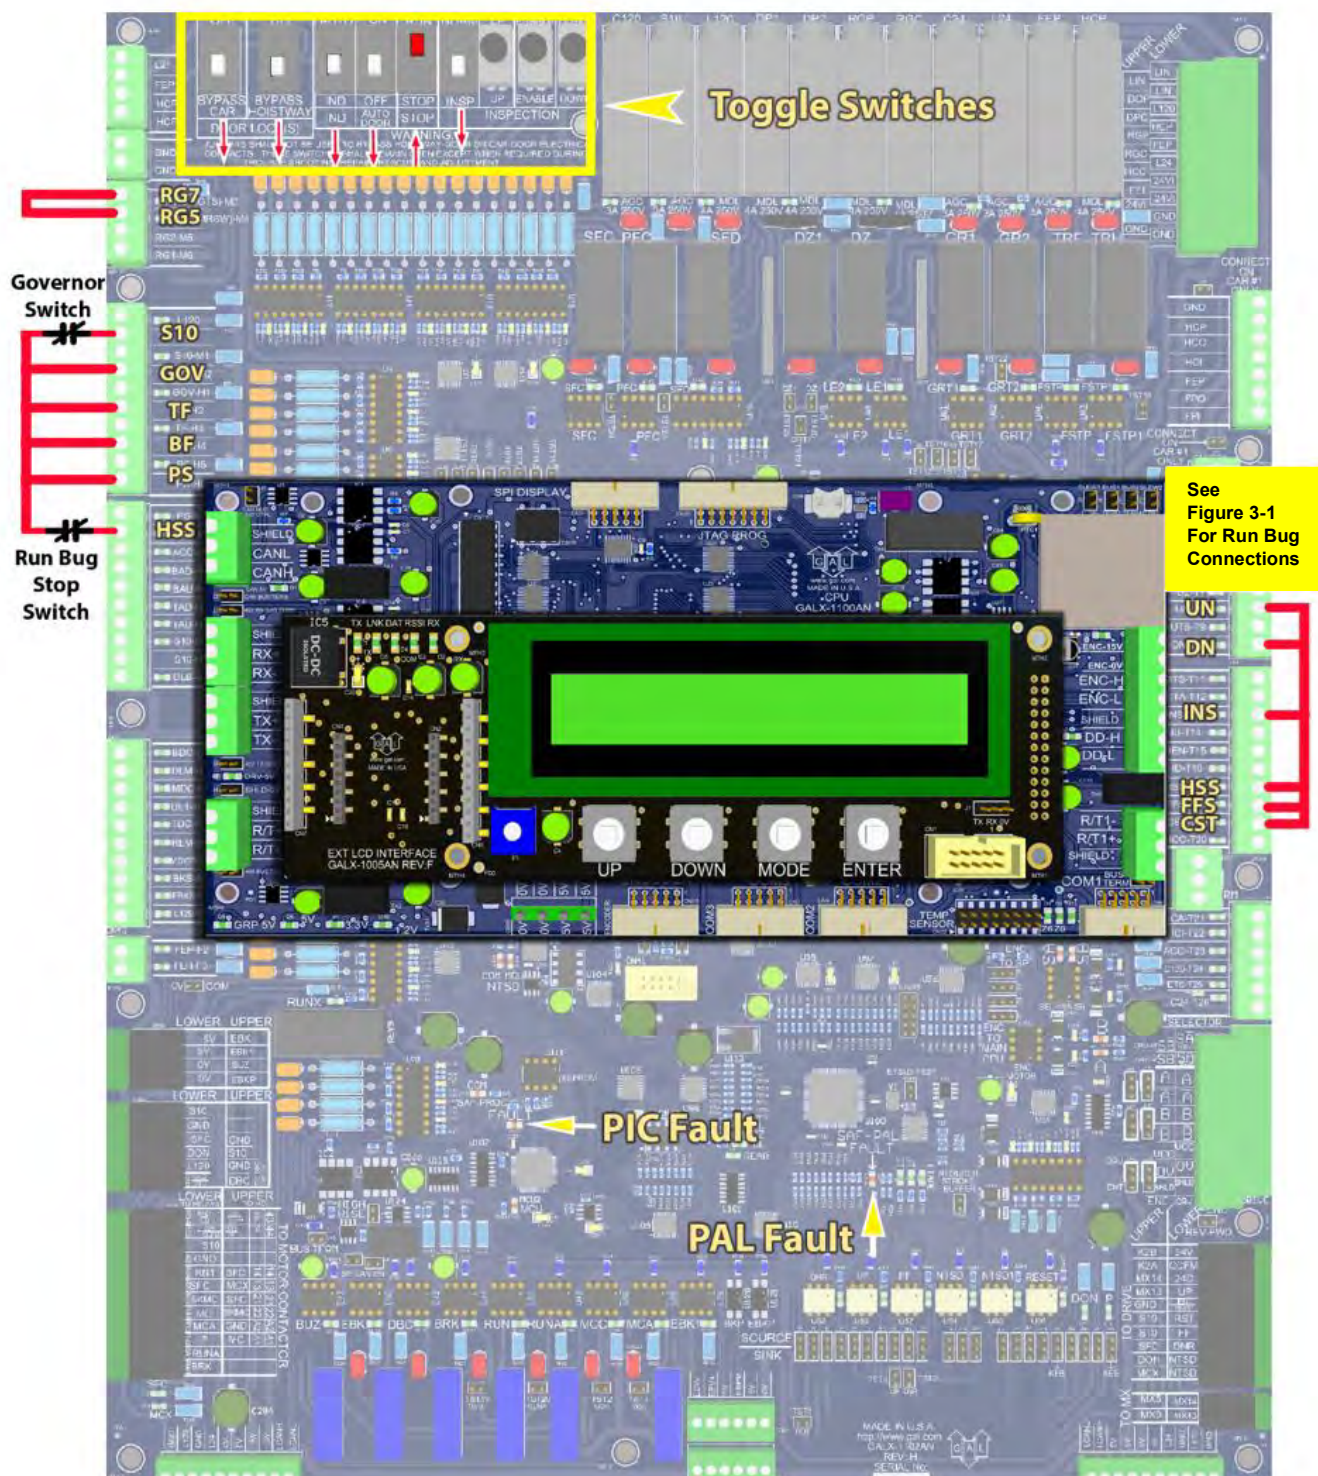

Figure 3-4: GALX-1102AN Main I/O
With Run Bug. See Figure 3-4
- 5) Set the toggle switches on the GALX-1102 Main I/O Board as show in Figure 3-4.
- 8) Verify the PIC and PAL fault LED's are off. See the GALX-1102AN Main I/O Board in Figure 3-4. If these LED's are on, refer to Section 04 Troubleshooting.